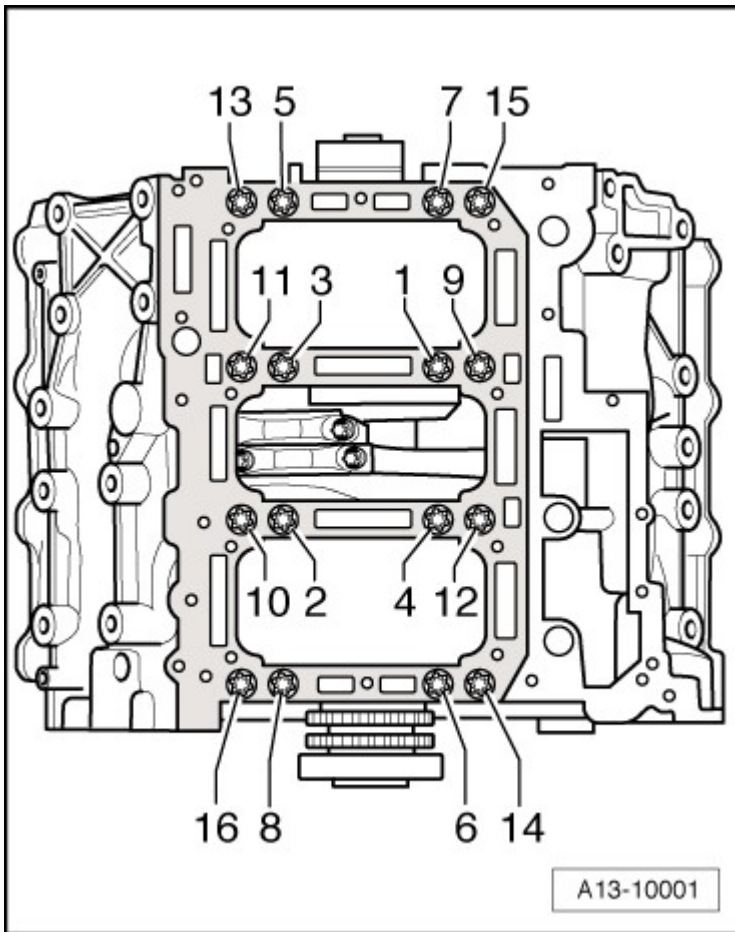

Fig. 8: Guide Frame, Bolt Installation Sequence
- Installing, refer to **Fig. 8**
- Tightening specification and sequence, refer to **Fig. 8**